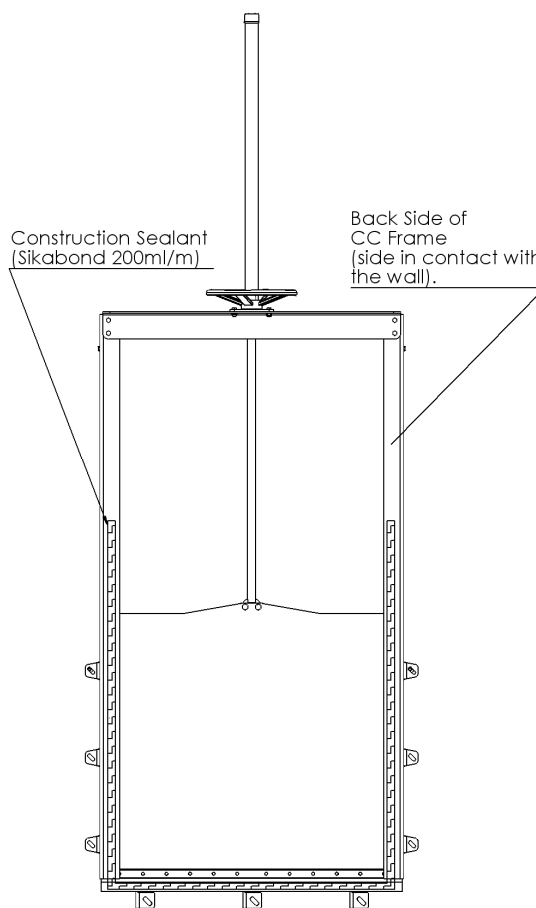

Figure 14
- Apply construction sealant all around the perimeter of the frame, where it will be in contact with the wall. Sikabond (200 ml/m) or equivalent construction sealant shall be used (See Figure 14). Be sure not to get sealant on the gate's seals, guides, and/or stem, as this may cause leakage or damage.